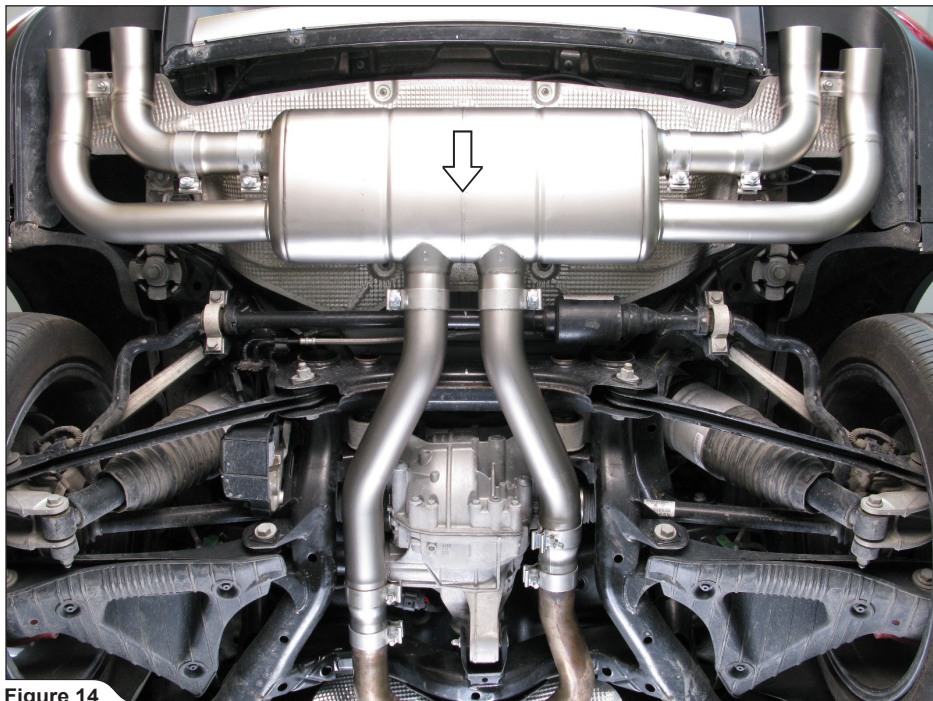

Figure 14
6. For Turbo, Turbo S, S, V6 and Hybrid models only: slide the muffler onto the link pipes (Figure 14).